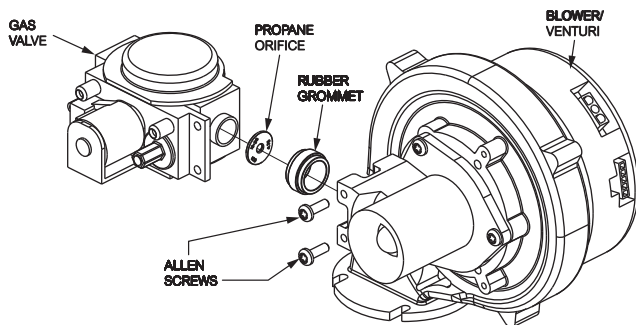

Fig. 48: Gas Train Assembly 88AR thru 108AR
6. Remove the two Allen screws holding the Gas Valve to the Venturi/Blower assembly (see Fig 48).